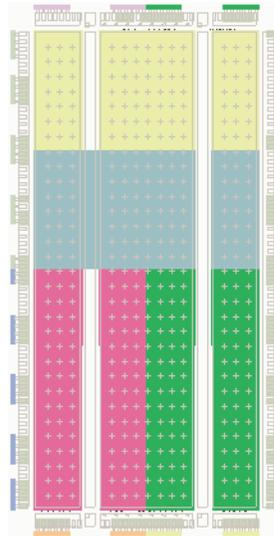

Figure 7: Design Fully Partitioned Into Area Groups
9. Repeat steps 5-7 for each of the remaining Logic Groups. When completed, the Area Groups may look something similar to what is shown in Figure 7.